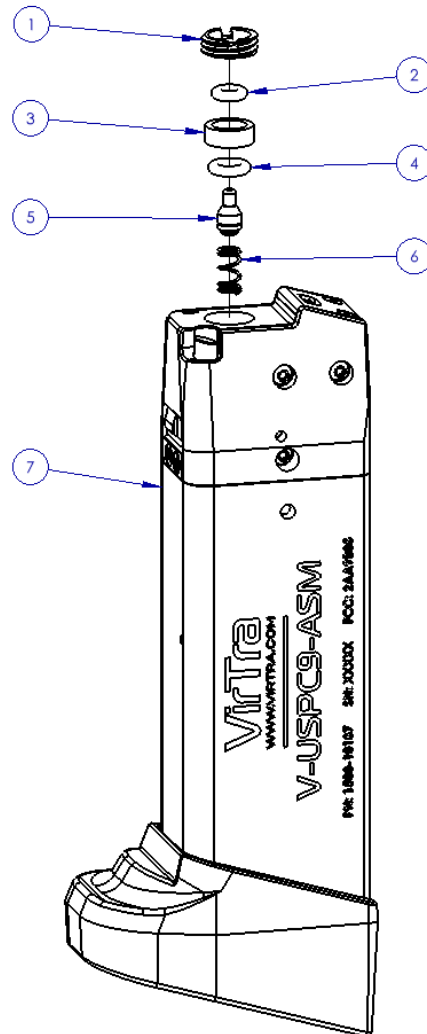

Figure 1: Magazine Assembly
Remove the double seal cap (Figure 1, #1) using the Wheeler Thick Blade Screwdriver Bit #543-457 supplied in the Maintenance Kit
- Use a small pick or screwdriver to remove the 005 O-ring (Figure 1, #2) and double seal spacer (Figure 1, #3). Inspect the O-ring and replace if any damage/wear is present.
- Use a small pick or screwdriver to remove the 007 O-ring (Figure 1, #4). Inspect the O-ring and replace if any damage/wear is present.
- Invert the magazine and allow the double seal valve (Figure 1, #5) and compression spring (Figure 1, #6) to drop free. Inspect the spring and replace if any damage/wear is present.